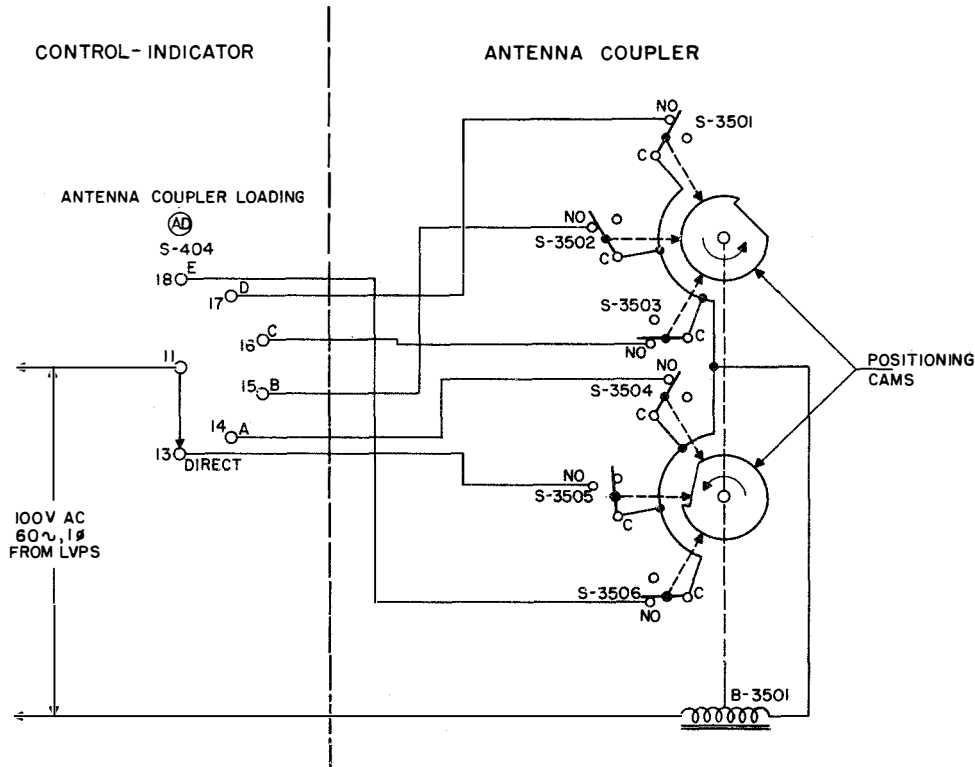

Figure 2-44. Antenna Coupler Loading (AD) Switch S-404, Control Circuit, Simplified Schematic
(3) ANTENNA COUPLER LOADING Ⓢ SWITCH S-404 CONTROL CIRCUIT.—The ANTENNA COUPLER LOADING Ⓢ SWITCH, S-404 (figure 2-44), is a six-position selector switch whose function is to control the positioning of another actuator, B-3501, in the antenna coupler. This actuator in turn positions the loading switch in the antenna coupler. The loading switch selects the loading component that might be needed to properly tune the antenna system. A detailed description of the functioning of the loading components is found in the section covering the antenna coupler (paragraph 17c(2)).